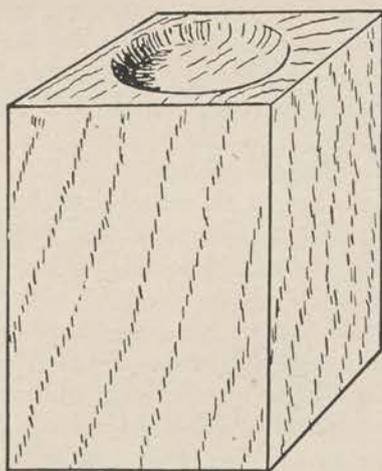

Figure 96.
*b.* To make the mold, take a piece of soft wood 3 or 4 inches long and about 2 inches square. A piece of 2 by 4 will do. Using the round end of a ball peen hammer, beat a circular depression in one end about  $\frac{3}{16}$  inch deep (fig. 96).